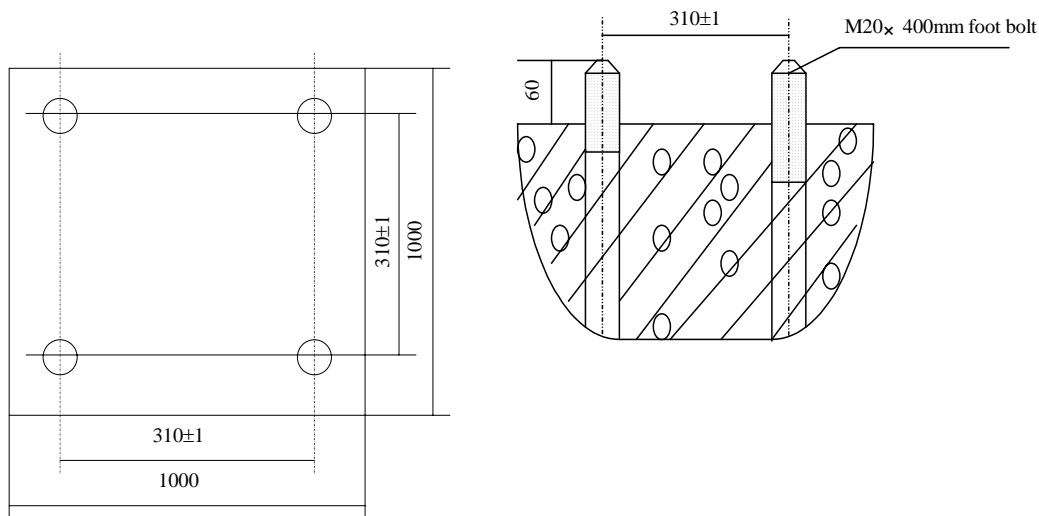

Fig.1 Foundation
2.1. Foundation building (See Fig. 1)